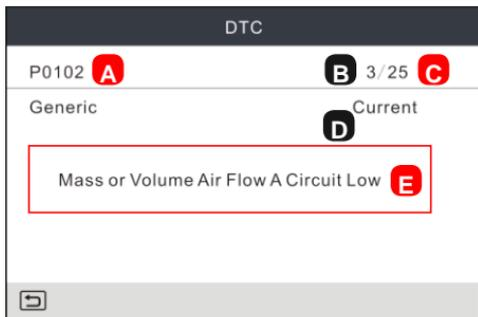

Figure 6-5
Select **Read Codes** from the Diagnostic Menu and press **OK**. The system will automatically read the SAE-standard DTCs and a screen similar to Figure 6-5 will appear.
- If some DTCs are found, the screen will display the DTCs (Refer to Figure 6-5).